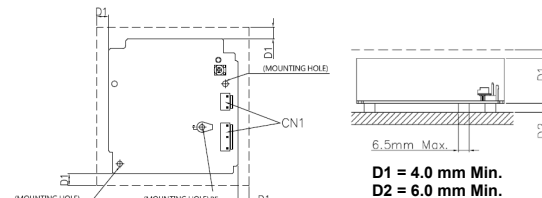

Fig. 3. Assembly Reference
- The mounting holes on the mounting accessories for the device should be kept at a diameter of $< 6.5\text{mm}$. This is to ensure sufficient safety distance between the mounting screw and the components on the device (Refer to Fig. 3).